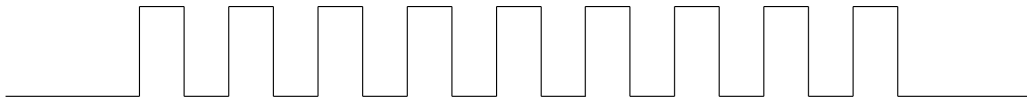

Figure 38.5-2. Master Clock Positive Waveform
- **Scenario 2:** The clock sent by the master device is not a free-running clock, and the clock waveform is as shown in Figure 38.5-2.
Requirement: The master device should invert the original clock and convert it to the waveform as Figure 38.5-2 shows before output.